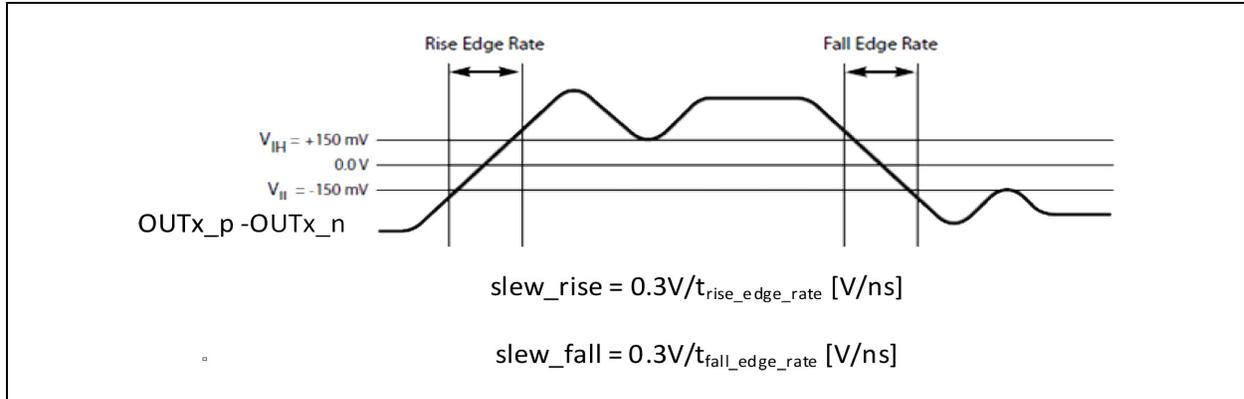

FIGURE 3-4: Differential Measurement Points for Rise and Fall Time.
- 4:** Measured from -150 mV to +150 mV on the differential waveform (derived from CK minus CK#) The signal must be monotonic through the measurement region for rise and fall time. The 300 mV measurement window is centered on the differential zero crossing. See Figure 3-4.